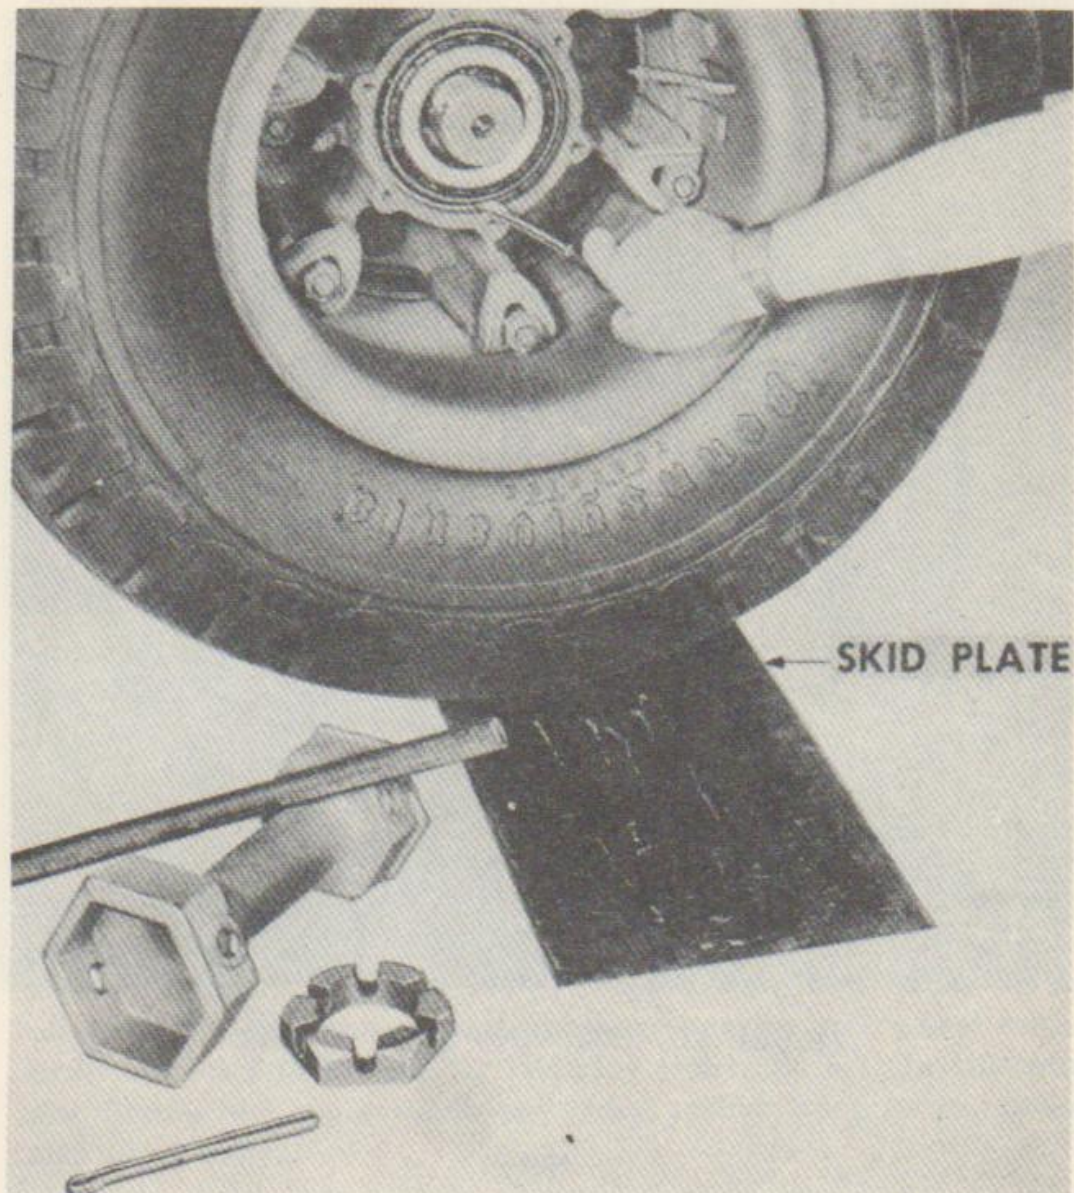

FIGURE 51. REMOVING WHEEL AND TIRE ASSEMBLY
a. Removal (figs. 51 and 59). Jack dolly axle until wheel clears the ground. Place a greased steel plate or wood plank under dual tires to utilize as a skid. Remove six cap screws and six lock washers